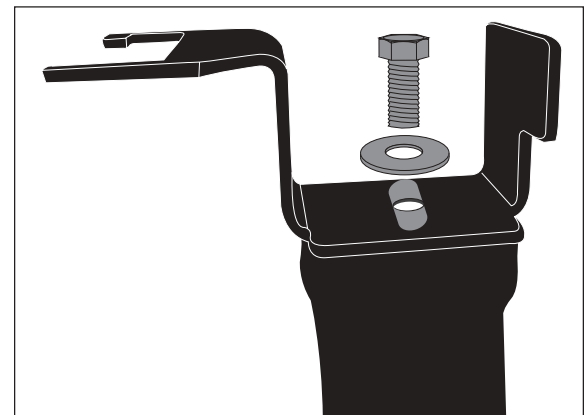

Figure 3
5. Loosely attach the lower bracket (C₁, C₂) to the bottom of the air spring with $\frac{1}{2}$ " flat washer (L) and $\frac{1}{2}$ " Hex Head Cap Screw (J). See Figure 3.